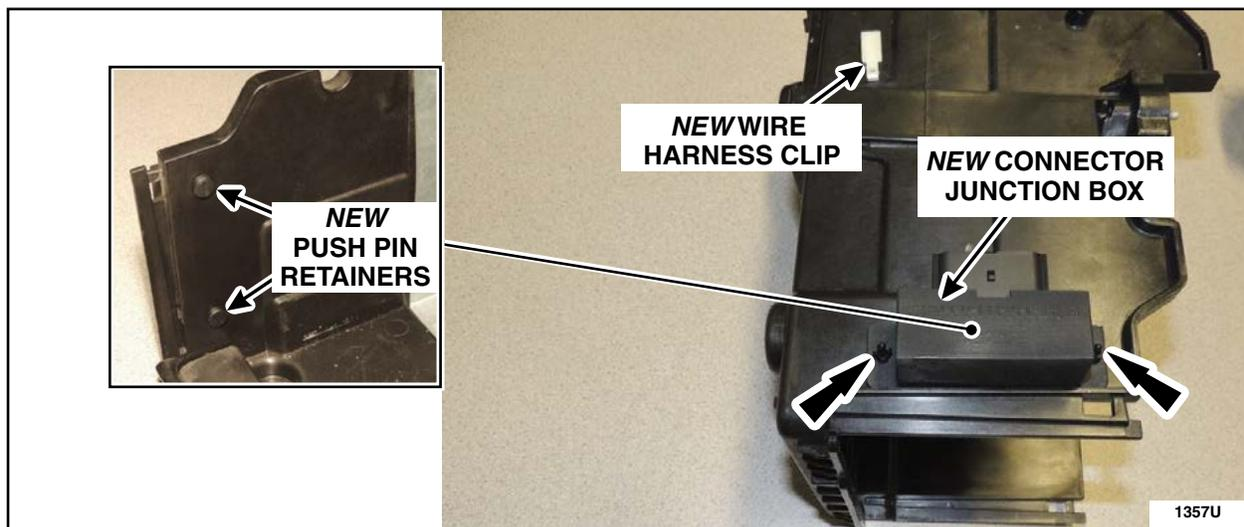

FIGURE C4
**SERVICE TIPS:** Remove the two (2) push pin retainers from the connector junction box, prior to installation. While installing the connector junction box ensure that the push pin retainers are installed in the proper orientation. See Figure C4.
- Deburr the four (4) previously drilled holes on the battery tray as necessary.
- Attach the *new* connector junction box to the battery tray using the two (2) *new* push pin retainers. Install the *new* push pin retainers so the heads of the retainers are on the **INSIDE** of the battery tray. See Figure C4.
- Install the *new* wire harness clip onto the battery tray. The christmas tree portion of the *new* wire harness clip is to be installed into the larger of the two mounting holes. See Figure C4.